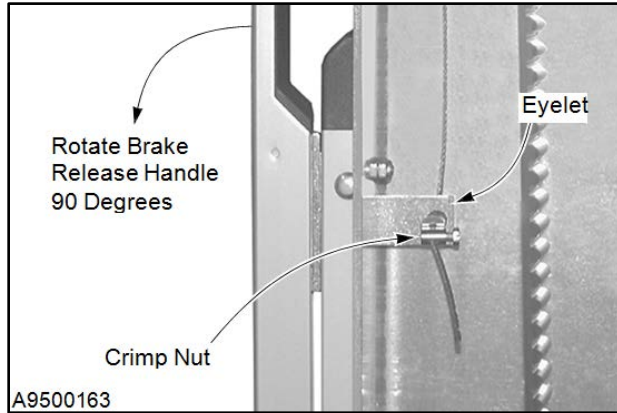

Figure 50
7. With the brake release handle fully extended out or at 90 degrees, feed the cable through the eyelet in the bottom of the handle. Slide a crimp nut over the end of the cable with the nut tight against eyelet. Then tighten down the setscrew with the majority of slack removed from the cable. (See Figure 50.)